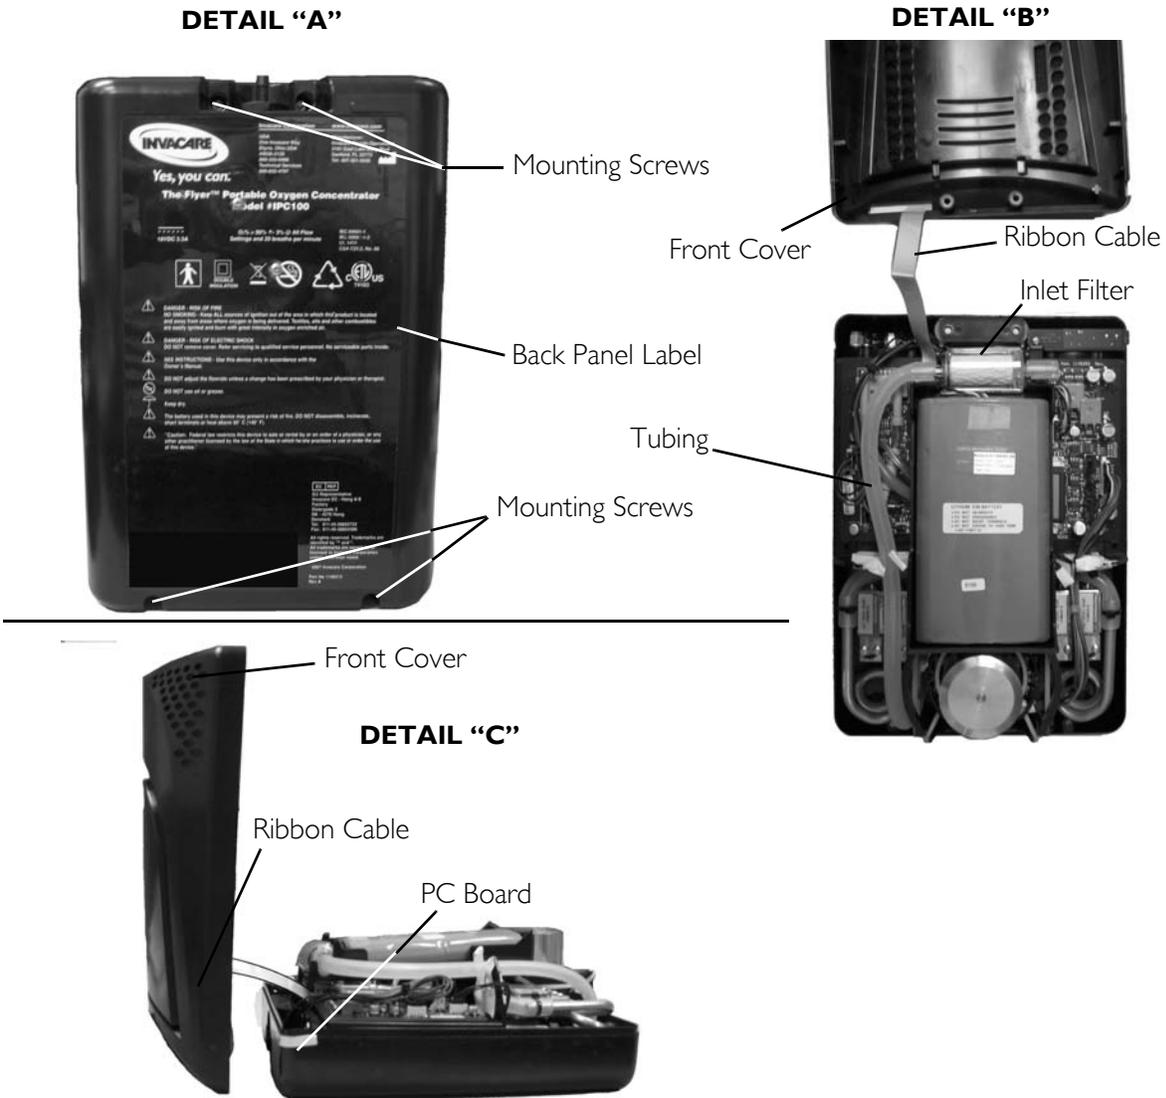

FIGURE 2.3 Removing the Front Cover
NOTE: For this procedure, refer to FIGURE 2.2 and FIGURE 2.3 on page 11.
2. Position the XPO₂ so that the back panel label is facing up (Detail “A” in FIGURE 2.3).
3. Remove the four mounting screws from the back of the XPO₂ using a T15 Torx[®] screwdriver (Detail “A” in FIGURE 2.3).
5. Slowly, open the front cover ensuring not to damage the ribbon cable (Detail “B” and Detail “C” in FIGURE 2.3).
- Position and orient the new filter in the holder (Detail “B” of FIGURE 2.3).
NOTE: For this procedure, refer to FIGURE 2.3 on page 11.
4. While holding the unit together, position the XPO₂ so that the back panel is facing up (Detail “A” in FIGURE 2.3).
5. Install four mounting screws and secure the two sections of the XPO₂ together (Detail “A” in FIGURE 2.3). Securely tighten.